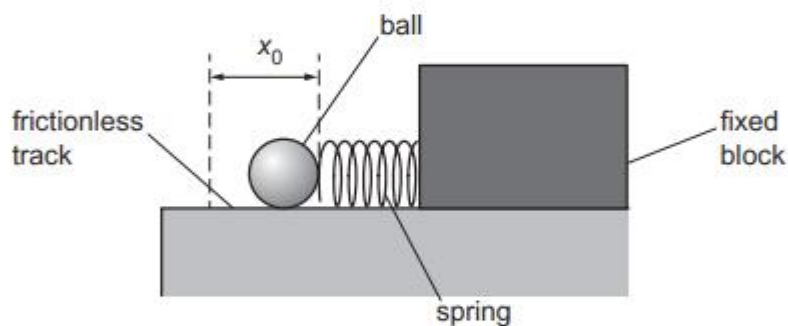

Fig. 2.2
- (b) The ball is projected by means of a compressed spring which is attached to a fixed block as shown in Fig. 2.2.